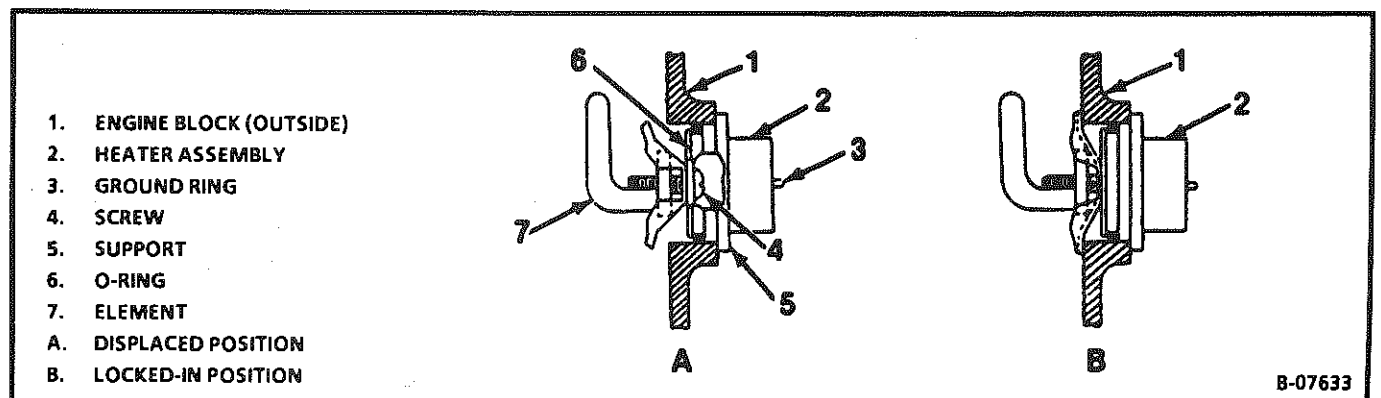

Figure 19 - Engine Block Heater
4. Position the heater as shown in Figure 19.